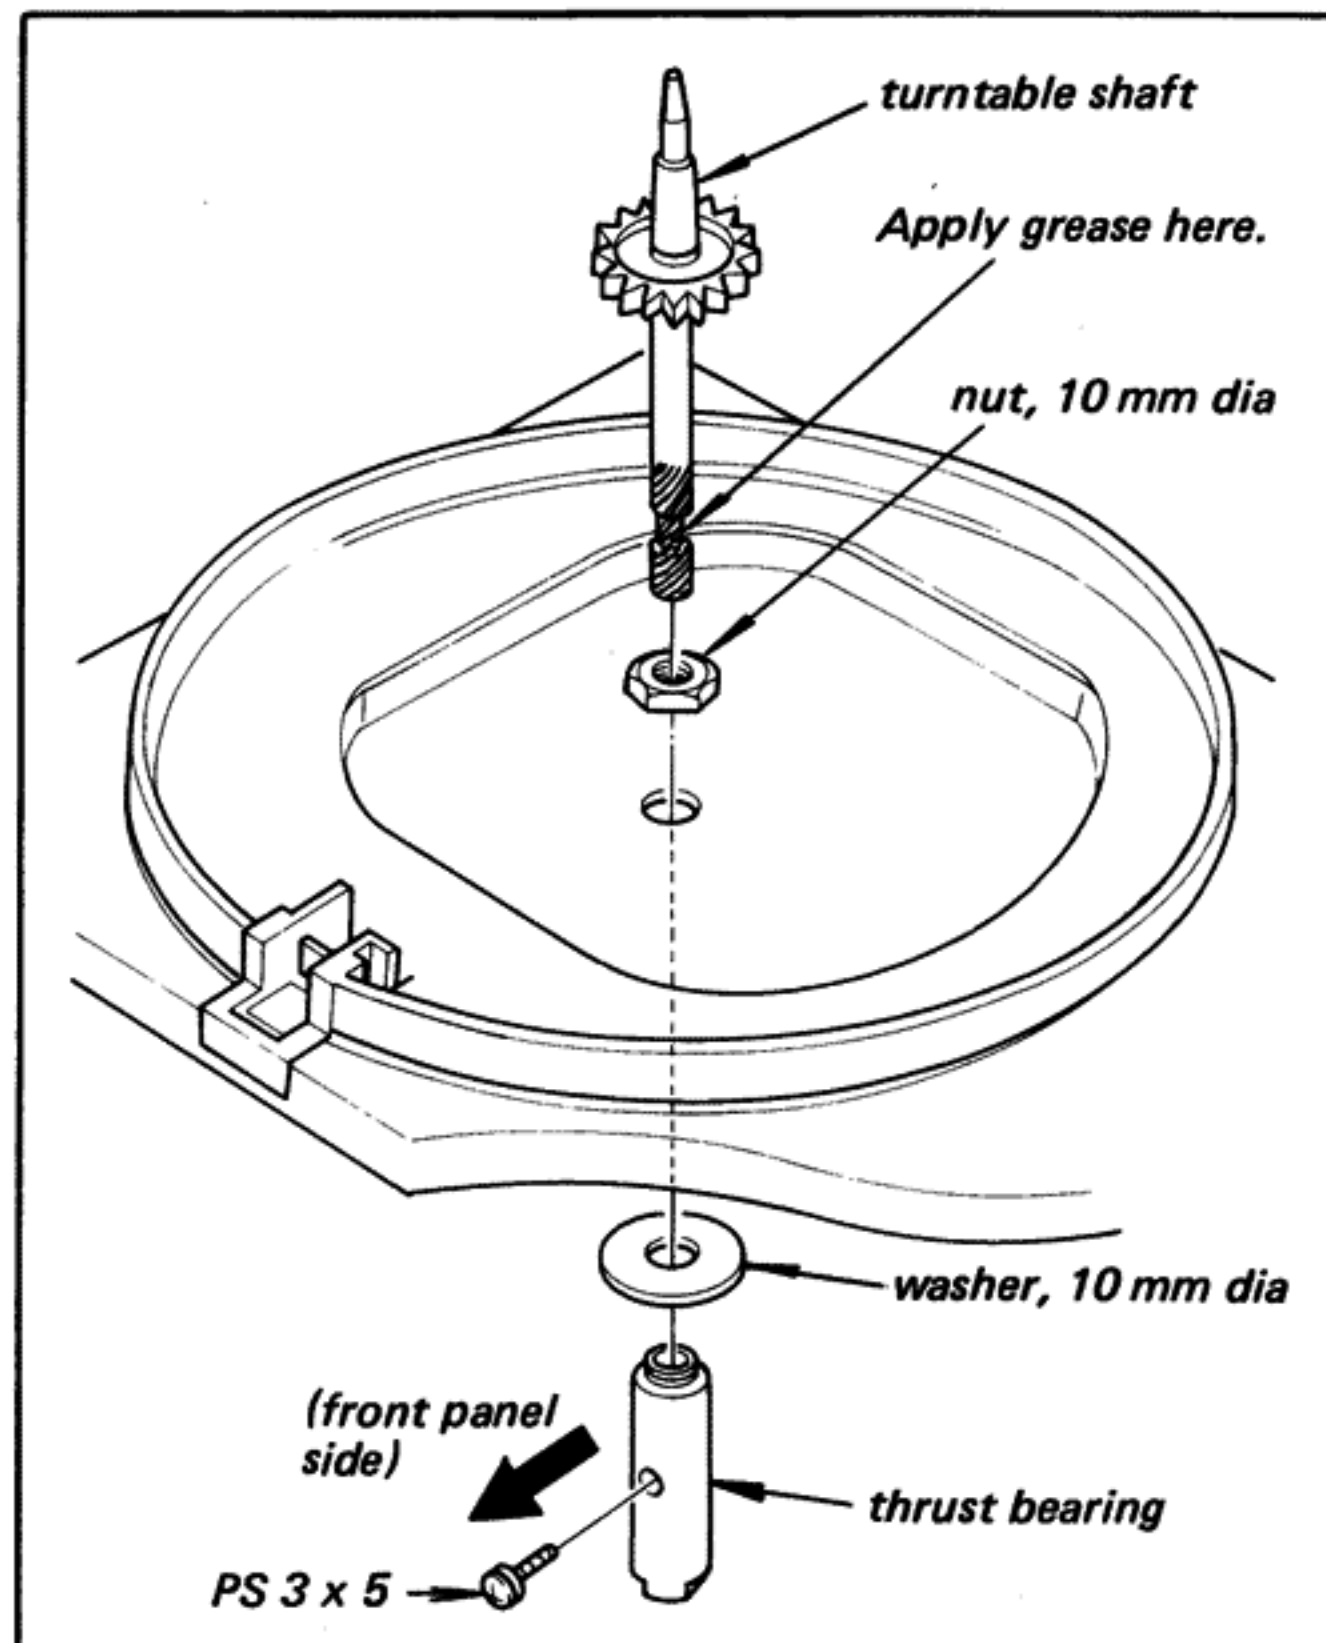

Fig. 2-8. Turntable shaft replacement
2. Remove the screw (PS 3 x 5) from the thrust bearing shown in Fig. 2-8.
4. Apply grease (Part No. 7-662-001-11) on the lower portion of the turntable shaft as shown in Fig. 2-8 and install it.
2. Remove the nut (10 mm dia) and washer (10 mm dia) as shown in Fig. 2-8. This frees the thrust bearing.
3. When installing the thrust bearing, the head of the screw (PS 3 x 5) should be in the direction of the front panel as shown in Fig. 2-8.